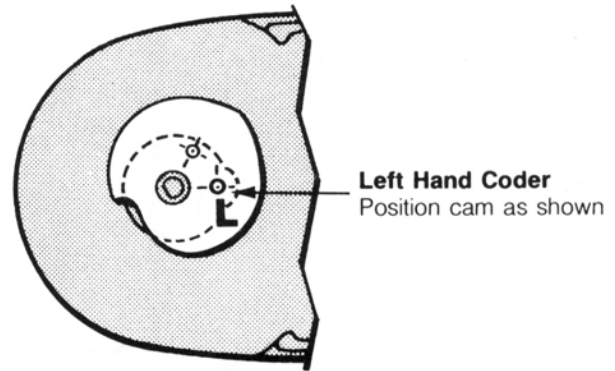

FIGURE 12a
Marking wheel rotation is determined by a cam located under the timer assembly. Figures 12a and 12b show the position of cam for right and left hand coders.
6. Replace the cam plate on the locating pin according to the "hand" desired as shown in Figure 12a or 12b. The letters "L" or "R" on the cam indicate the "hand" of the marking wheel.